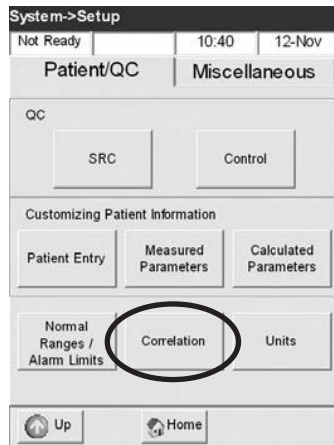

Fig. 3-25 Select Correlation
2. In the **<System Setup>** menu, press **<Correlation>** (Fig. 3-25).